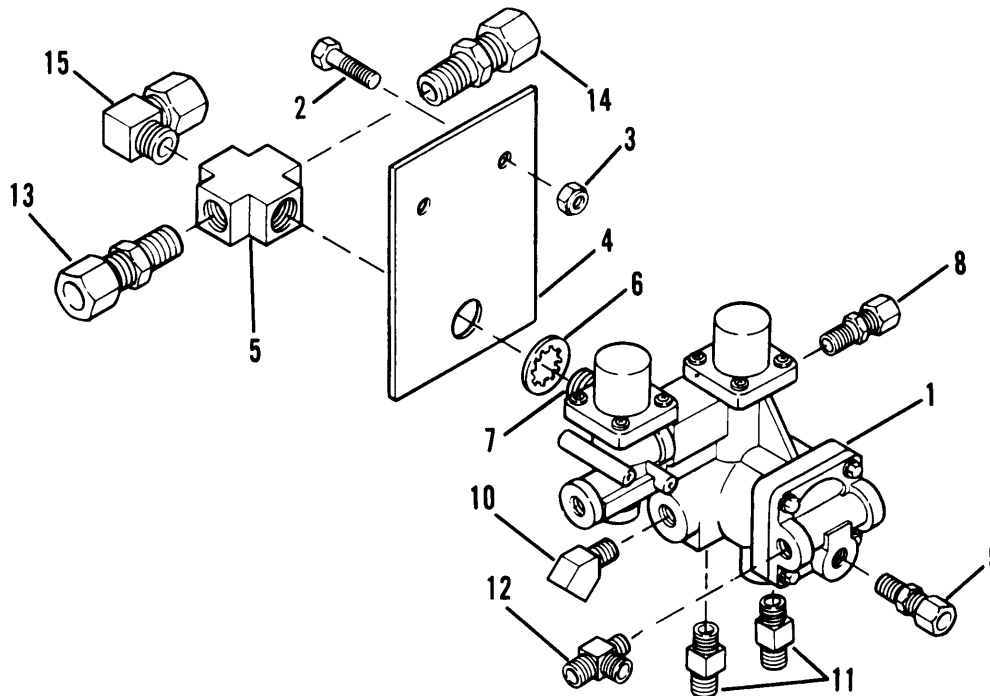

Figure 4-34. Multi-Function Valve W7W)
- (1) Tag and disconnect air lines from multi-function valve (1, fig. 4-34).
- (2) Remove two screws (2) and locknuts (3) from mounting plate (4).
- (3) Remove multi-function valve (1) from female pipe cross (5) and mounting plate (4).
- (4) Remove washer (6) and male adapter (7) from multi-function valve (1).
- (5) Remove male connectors (8, 9 and 10) from multi-function valve (1).
- (6) Remove adapters (11) and tee (12) from multi-function valve (1).
- (7) Remove male connectors (13 and 14) from pipe cross (5).
- (8) Remove 90° elbow (15) from pipe cross (5).
- (1) Install 900 elbow (15, fig. 4-34) in pipe cross (5).
- (2) Install male connectors (13 and 14) in pipe cross (5).
- (3) Install adapters (11) and tee (12) in multi-function valve (1).
- (4) Install male connectors (8, 9 and 10) in multi-function valve (1).
- (5) Install male adapter (7) and washer (6) on multi-function valve (1).
- (6) Install multi-function valve (1) on mounting plate (4) and female pipe cross (5).
- (7) Secure multi-function valve (1) and mounting plate (4) to frame with two screws (2) and locknuts (3).
- (8) Connect air lines to multi-function valve (1).
- (9) Close drain cocks.
- (10) Charge air brake system.
- (11) Check for leaks.